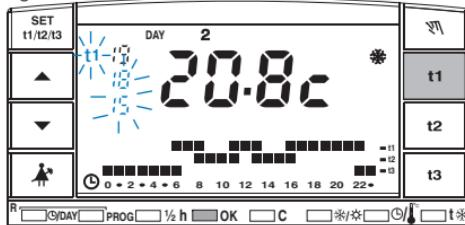

fig. 3
b) To fix the maximum temperature limit only: press **t1**; the **t1** value will be fixed on the display, with the symbol **t1** blinking alongside. Press **OK** to confirm (fig. 3): the chronothermostat will revert to the currently activated program.